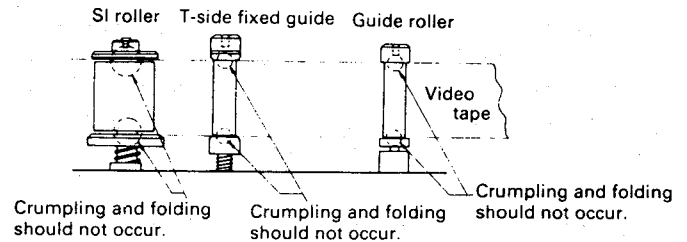

Figure 22.
- 1) Check that the edge of the video tape does not fold or crease, as shown in figure 22, during the travel of the tape.
- 2) After adjustment is complete, always adjust the tape travel, and adjust the T and S guide rollers before carrying out the checks in figure 22.